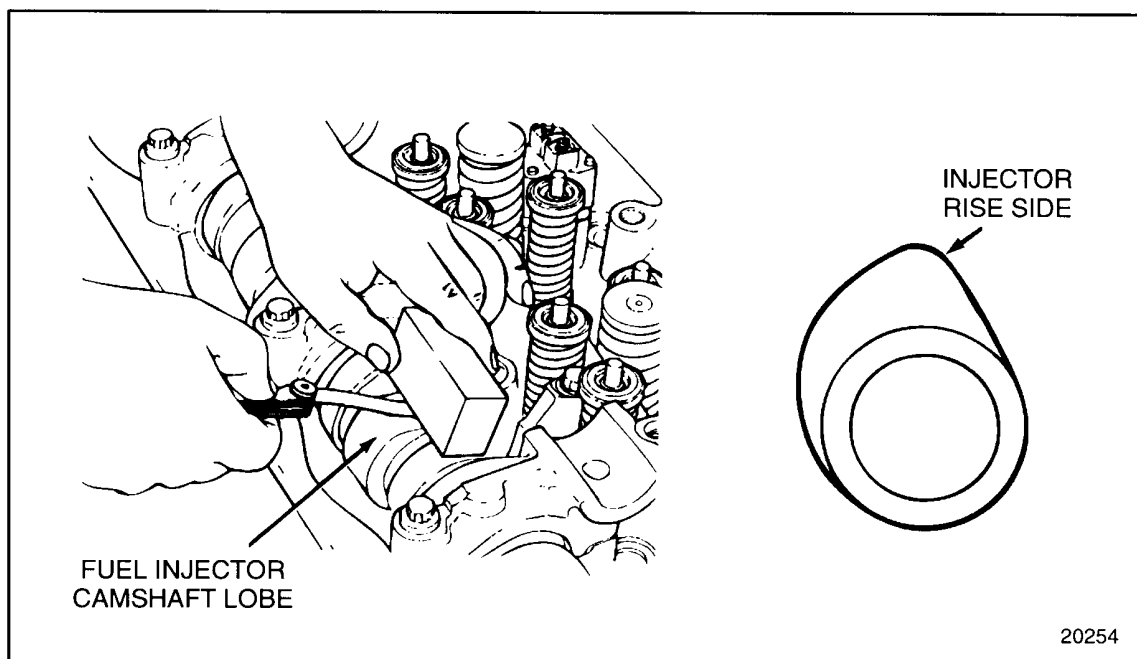

Figure 1-305 **Checking Camshaft Lobe Wear**
- [a] With a set of feeler gages, 0.038-0.254 mm (0.0015-0.010 in.) and a piece of square, hard material 3 x 10 x 25 mm (1/8 in. x 3/8 in. x 1 in.), measure the flat on the injector rise side of the camshaft lobes and nose of valve lobes. See Figure 1-305.